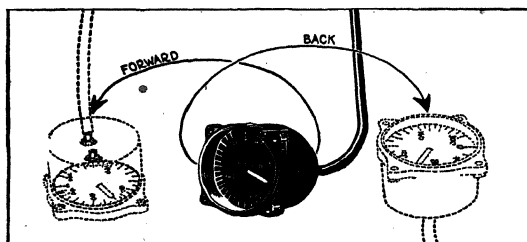

FIG. 42.—Turning instrument forward and back.
**Position Error.**—Put pressure on the instrument so its reading is that of one of the starred test points in Table 5. Without changing the pressure, the instrument is to be turned from its normal upright position through 90 deg., forward and back, and left and right (see Figs. 42 and 43). Take the reading of the air speed indicator after tapping lightly, when in these four different positions. These readings may be different from those in the